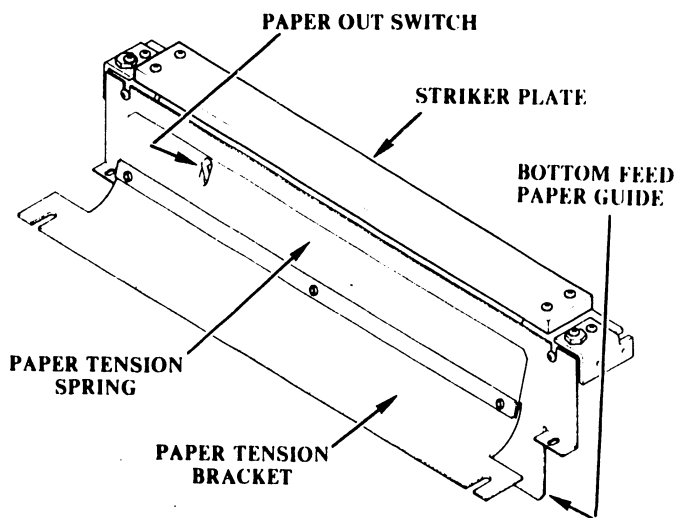

FIGURE 6-7 PAPER GUIDE ASSEMBLY
6.3.1 PAPER GUIDE ADJUSTMENT CHECK (REFER TO FIGURE 6-7)